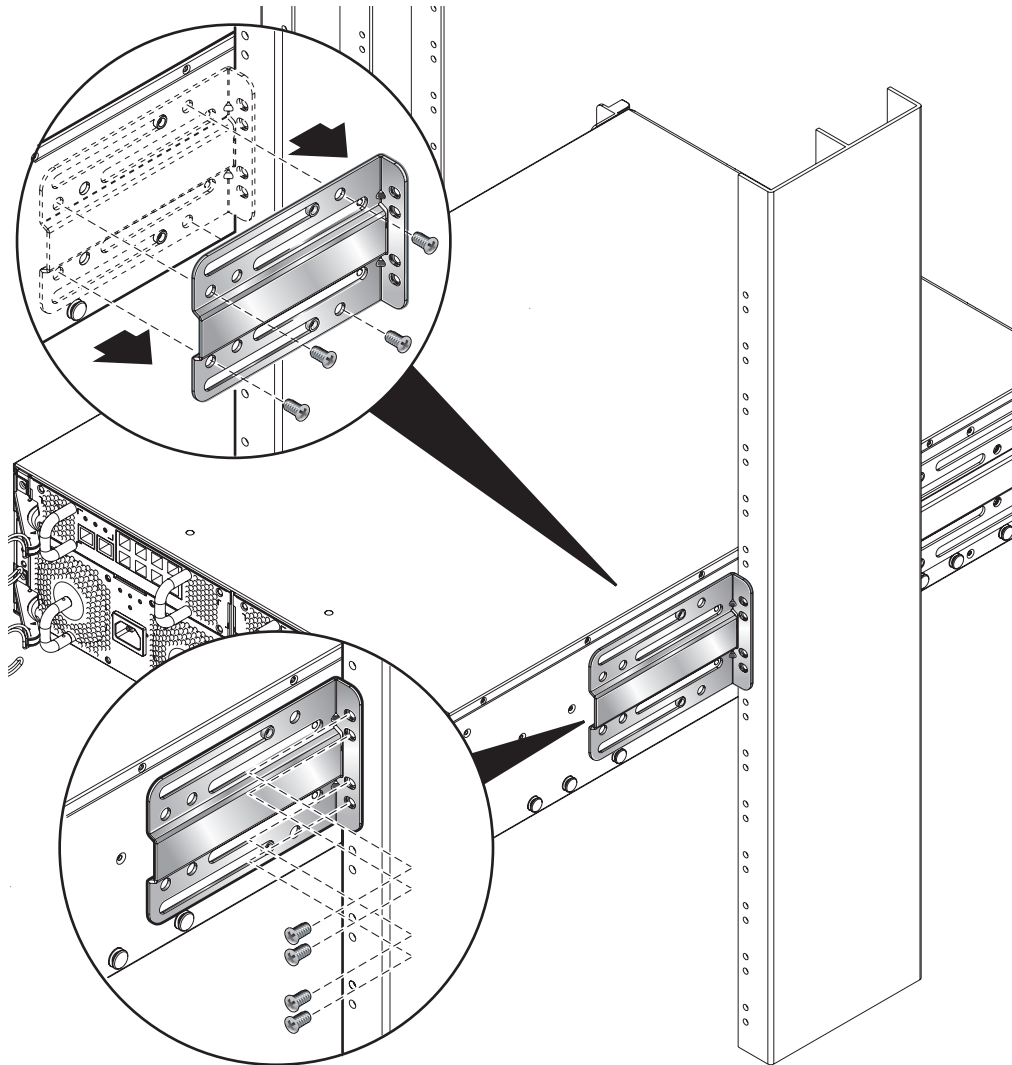

FIGURE 12-19 Detaching the Rear Brackets
1. Remove the rear brackets from the system chassis and rack (FIGURE 12-19).